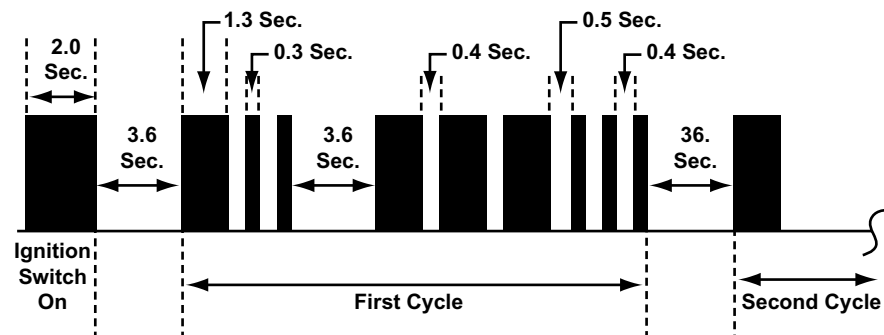

Figure 10-24 Isuzu ABS Code Type 02
- Type 02, see Figure 10-24 and Table 10-6 on page 112